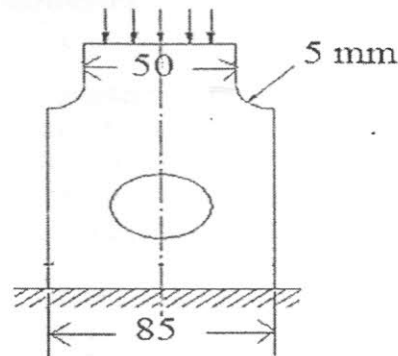

Figure. Q3(a)
3. a) Determine the diameter of the hole in Figure. Q3(a), if the stress concentration factor at the hole is to be the same as at the fillet.